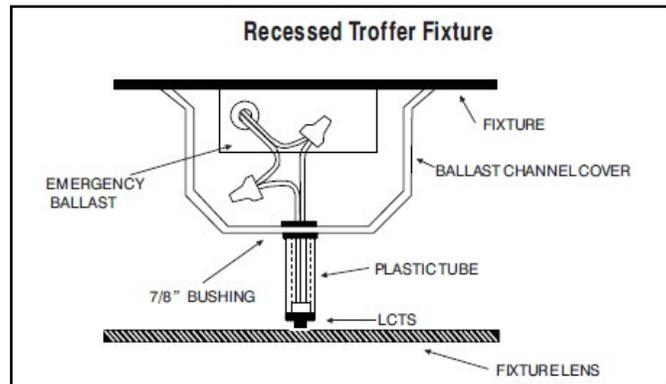

Figure 1
- f. Push the entire assembly back into the tube until the lens collar rests against the plastic tube. The plastic tube should be adjusted so that the LCTS is within 1/4" of the fixture lens. The LCTS must be visible after installation. Refer to **Figure 1**.